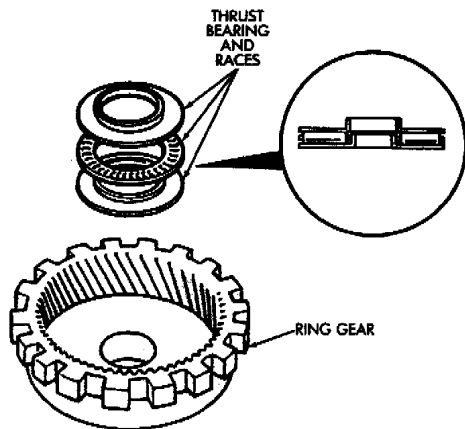
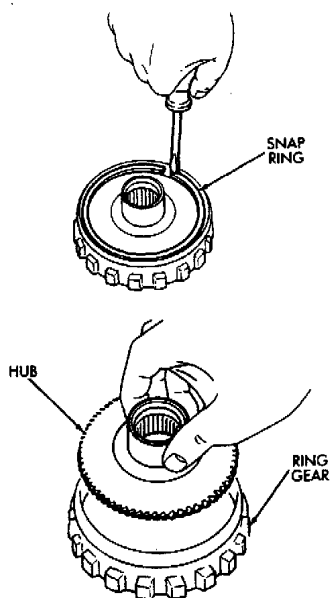

Fig. 10 Removing/Installing Ring Gear Thrust Bearing And Races
Fig. 11 Removing/Installing Ring Gear Hub
- (10) Remove thrust bearing and washers from ring gear (Fig. 10).
- (11) Remove ring gear snap ring and remove ring gear hub (Fig. 11).
- (12) Inspect and replace any worn or damaged planetary gear components.
- (1) Install hub and snap ring in ring gear (Fig. 11)
- (2) Identify ring gear thrust bearing and races races by following dimensions:
- Outer diameter of bottom race (Fig. 10) is 44.8 mm (1.764 in); inner diameter is 27.6 mm (1.087 in).
- Outer diameter of bearing (Fig. 10) is 44.7 mm (1.760 in); inner diameter is 30.1 mm (1.185 in).
- Outer diameter of upper race (Fig. 10) is 44.8 mm (1.764 in); inner diameter is 28.8 mm (1.134 in).
- (3) Lubricate ring gear thrust bearing and races with petroleum jelly and install them in ring gear (Fig. 10).